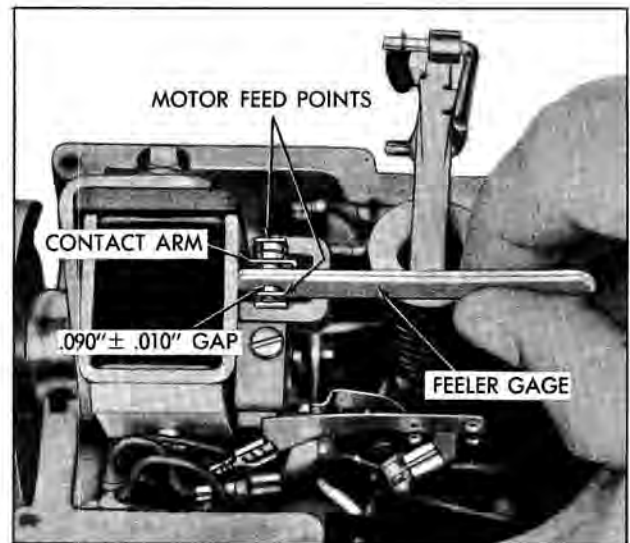

Fig. 12-39 Checking Motor Feed Points
3. Move contact arm against either motor feed point and use a feeler gauge to measure the full gap between contact arm and other point, Fig. 12-39. This gap must be  $.090'' \pm .010''$ . If gap is not within specifications, carefully bend either motor feed point on point adjuster assembly until proper gap is obtained.
7. Use a feeler gauge to measure gap between contact arm and either motor feed point on point adjuster assembly, Fig. 12-39. This gap should be approximately one-half of the full gap measurement in Step 3. If gap is not